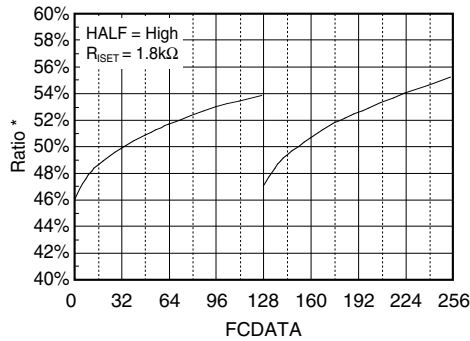

Figure 2. Cutoff frequency ratio (half fc mode)
In half fc mode, the CH-2 and CH-3 cutoff frequency is 1/2 that of the CH-1 cutoff frequency setting. Half fc mode is useful for systems where the sampling frequency varies due to luminance (Y) and color difference signal (Cr, Cb) requirements as in digital component signals. Note in figure 2 that the cutoff frequency ratio for a given cutoff frequency setting (FCDATA) is not constant.